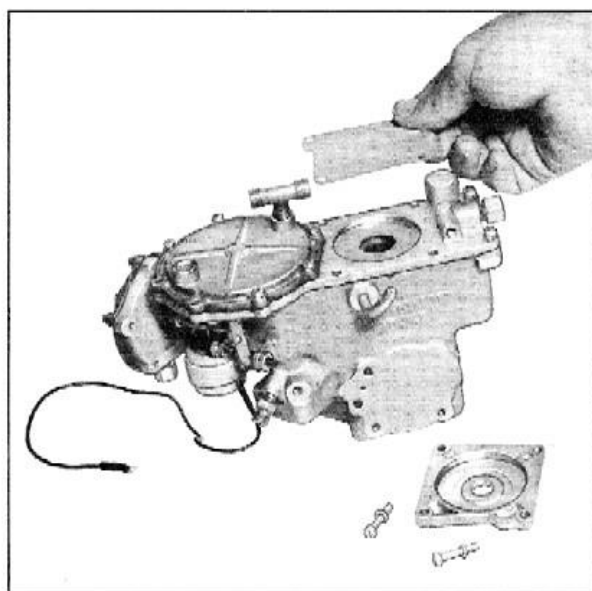

Fig. 20 Removing Fuel Bowl Vent Cover and Screen
6. Remove the two remaining screws attaching the bowl vent cover and remove the cover and screen, Fig. 20. It is good practice to inspect and clean the screen and replace immediately to minimize the possibility of dirt entry to the fuel meter.